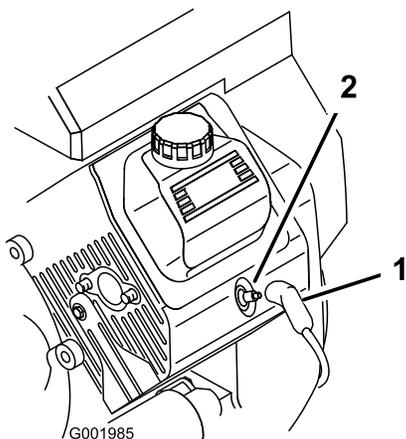

Figure 45
3. Pull the wires off the spark plugs (Figure 45).
3. Push the wires onto the spark plugs (Figure 45).